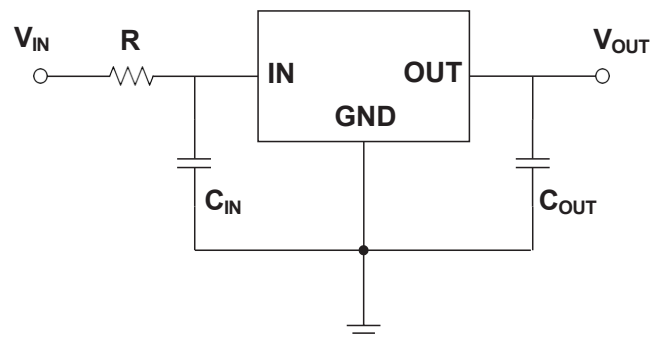

Figure 9-2. Resistance is used at IN
2. Place a resistor with appropriate resistance in series before the IN of the voltage regulator, which can help the voltage regulator share part of the energy in case of surge. The resistance value of the resistance should not be too large. The specific resistance value depends on the application of the circuit. Generally, the resistance value of this resistance does not exceed 20Ω. As shown in Figure 9-2.
For the VS78M series, it is recommended that the input voltage should not exceed 17V and the peak voltage should not exceed 35V. **When the input voltage is greater than 17V, or the peak voltage that may be greater than 35V may appear in the practical circuit, it is recommended to adopt the circuit layout shown in Figure 9-2 in the circuit design.**
The VS78M series can obtain better transient response with the help of output capacitance. However, if the output capacitor is relatively large, the surge current generated by the charging of the output capacitor will also be large at the moment of power on of the regulator, and the large surge current passing through the regulator may damage the internal circuit. When the output capacitance is large, adopting the circuit design shown in Figure 9-2 will reduce the possibility of damage to the device due to large surge current to a certain extent. It is recommended that the selection of output capacitor should not exceed 20 μ F. **If the selection of output capacitor exceeds 20 μ F, it is recommended to adopt the circuit design in Figure 9-2 to reduce the possibility of accidental failure of the device due to large surge current during power on.**
It is recommended that the output capacitor (C_{OUT}) should not exceed 20 μ F. When the output capacitor (C_{OUT}) exceeds 20 μ F, it is recommended to use the circuit layout shown in Figure 9-2. See *Large Output Capacitance* for more details.